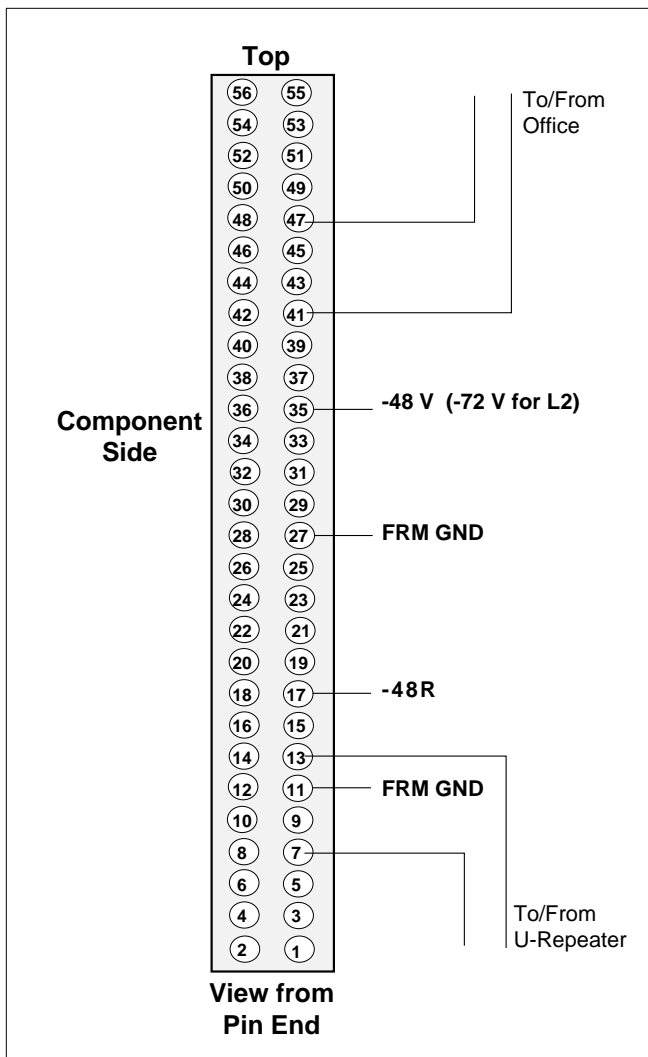

Figure 4. Connector Pin Assignments
2.3 The electronic components of the T400 U-RPM II are mounted on an epoxy printed circuit board. The board has gold plated edge fingers which plug into and mate with a dual (56 pin, position 28) connector on the back panel (see **Figure 4**).
3.1 **Figure 4** shows the connector pin assignments of the T400 U-RPM II. All connections to the unit are made through the T400-compatible backplane. No additional backplane wiring is necessary for normal operation of the T400 U-RPM II.